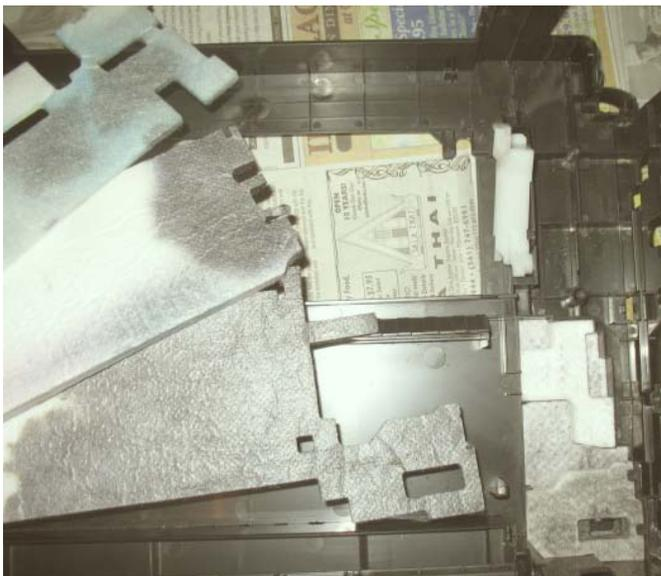
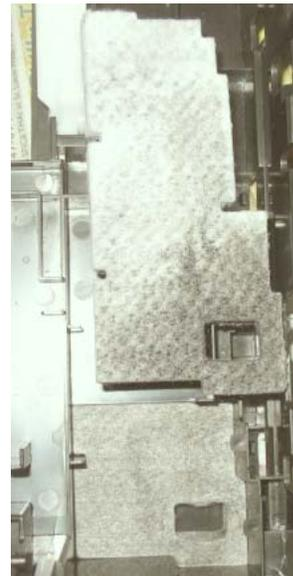

Figure 6
Figure 7
- 10) Since the bottom case is already off, clean the stained waste tank absorbent pads. I had already done this a couple years ago after I tested a new external “continuous” ink tank product. Unfortunately, it leaked about ten ounces of ink into the printer. For reassembly reference, the pads are stacked in Figure 6 and Figure 7 below to show you their correct order:
Although not shown in Figure 6, there is a white pad that runs from front to back on the left side. Could be considered pad# 1. It has never seen one drop of ink. Perhaps it's just an overflow pad for the longer "left-right oriented" pads shown in Figure 6 that are on top of it.
Still looking at Figure 6, you see the longer "left-right oriented" pads. I have shown them in a staggered fashion to show how they are stacked.
On the far right in Figure 6, we see the top three of the smaller pads. There are two small ones that sit on top of a larger one. In Figure 7, I have removed the two smaller pads. Now you see larger one (that I moved towards the top of the picture). You can also see the almost square pad (in place at the bottom of the picture) that is at the bottom of the tank. Do not miss removing this one at the bottom tank! Before removal and cleaning, it is solid black and is very easy to overlook.